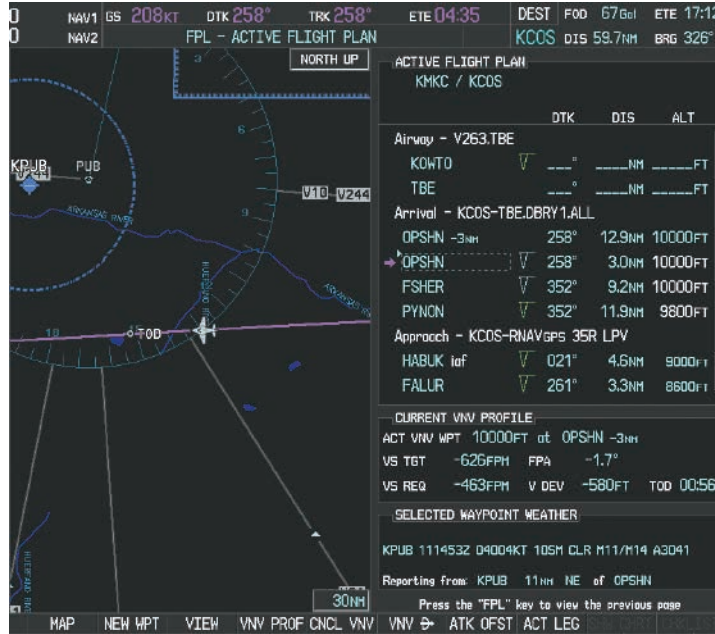
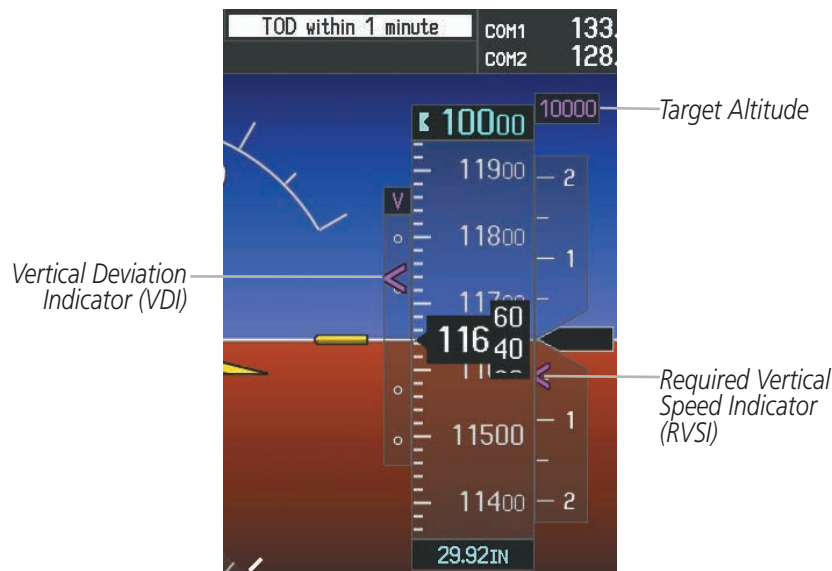

Figure 5-138 Approaching Top of Descent (TOD)
Figure 5-139 VDI & RVSI Upon Reaching Top of Descent (TOD)
- 15) As seen in Figure 5-138, the aircraft is approaching TOD. Note the target vertical speed required to reach the selected altitude. The Vertical Deviation Indicator (VDI) and the Required Vertical Speed Indicator (RVSI) are now displayed on the PFD as shown in Figure 5-139. When the aircraft is within one minute of the TOD, it is annunciated as shown in Figure 5-139, and an aural alert 'Vertical track' will be heard.